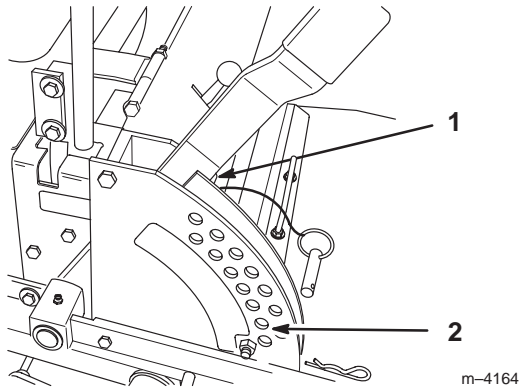

Figure 58
4. Raise the deck to the transport position and take all of the force off of the two large deck lift springs by loosening the nut in front of each spring (Fig. 58).
- Place 2 thick blocks (1-1/2 inch [38 mm]) under the rear left and right lower edge of the mower. Place 1 block (2-1/4 inch [57 mm]) under the front center lower edge of the mower. Lower the mower to the 2 inch (51 mm) height-of-cut position (Fig. 58).
- Raise the deck lift lever to the transport position (Fig. 58).